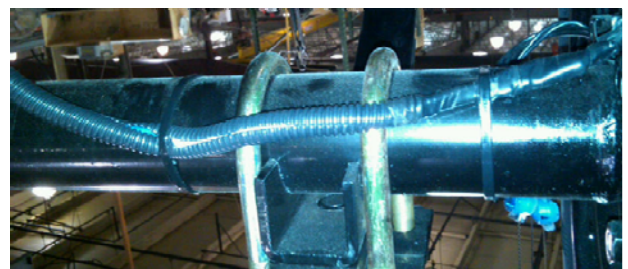

Fig. 4—brake wiring rerouted
- Route the wiring along the rear of the axle as shown in figure 4.